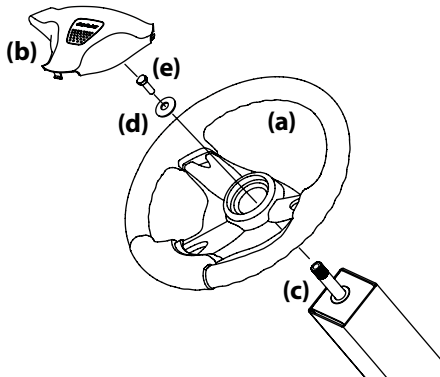

Figure 2-7
1. Remove the hardware for attaching the steering wheel (a) from beneath the steering wheel cover (b). Carefully pry off the steering wheel cover (b) to remove the hardware. See Figure 2-7.
2. With the wheels of the tractor pointing straight forward, place the steering wheel (a) over the steering shaft (c). See Figure 2-7.
3. Place the belleville washer (d) over the steering wheel (a) and secure with the hex screw (e). See Figure 2-7.
4. Place the steering wheel cover (b) over the center of the steering wheel (a) and push downward until it "clicks" into place. See Figure 2-7.